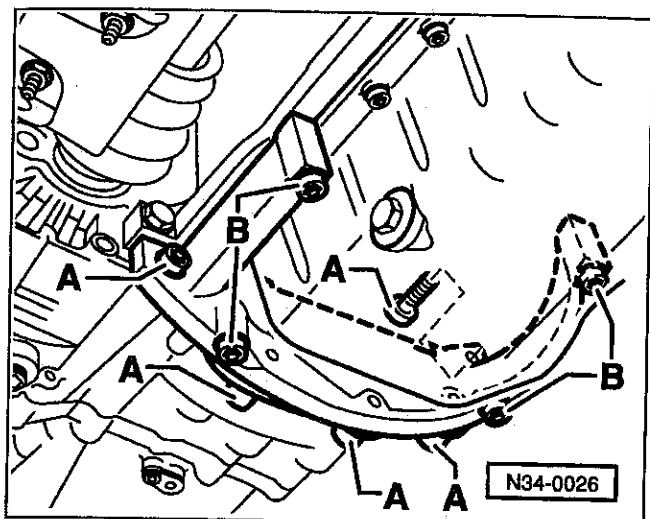

Fig. 21. Engine-to-transmission support mounting bolts (A and B).
19. Remove support between transmission and engine (where applicable). See Fig. 21.